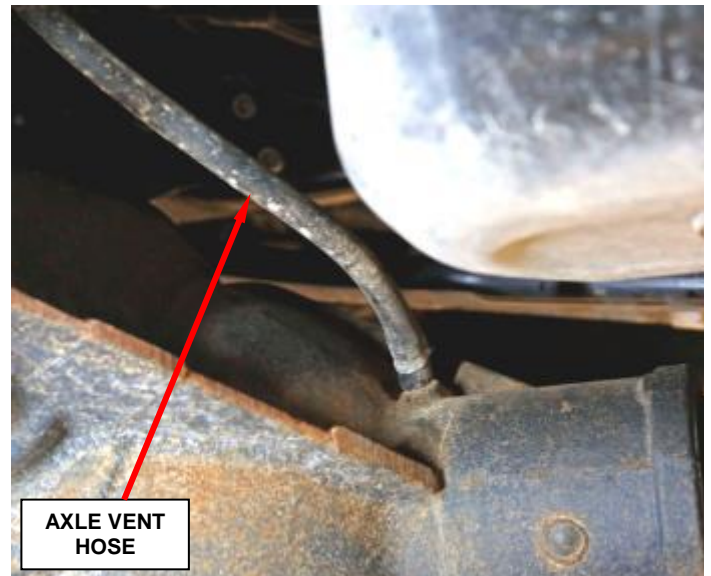

Figure 5 – Front Axle Vent Hose
1. Carefully disconnect the vent hose at the front axle (Figure 5).